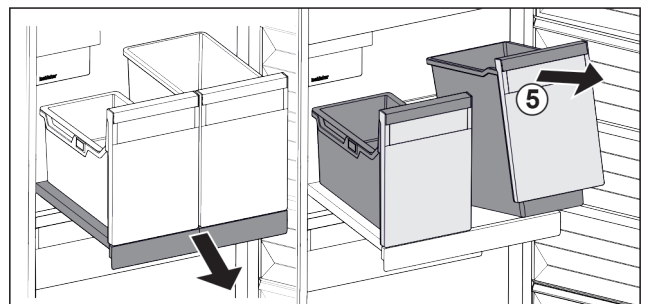

Fig. 89
- Lift the container Fig. 89 (5) at the front.